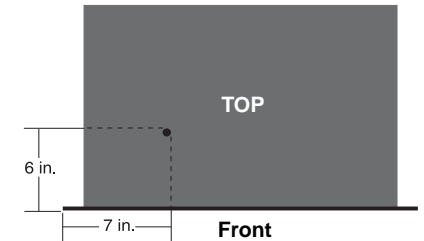

Figure 6.3 Center of Gravity
**Center of Gravity** (see Figure 6.3)